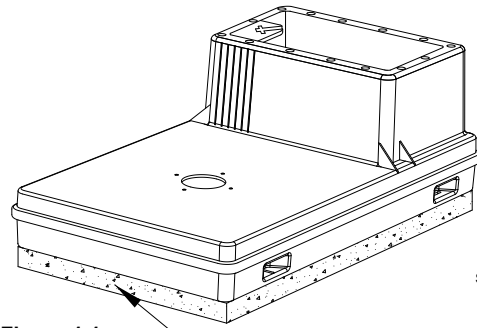

Figure 1.1
- 1.2) Level tank to within $\frac{1}{8}$ " for length and width. Use hydraulic cement or similar material for leveling. Refer to Figure 1.1.